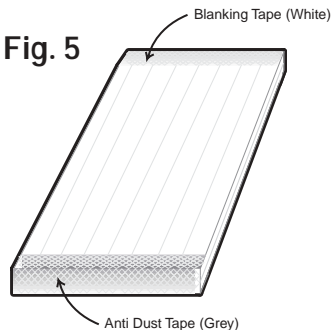

Fig. 5
Step 6: Ensure the sheet is free of any swarf or dirt by blowing air through the flutes and sealing the ridge end of the sheet using blanking tape (Ref. BT 10/16/25). This permanently closes the ridge end of the sheet and stops further ingress of dirt or moisture (Fig. 5). Sealing the sheet can be done at the factory prior to delivery.
Step 7: Seal the eaves end of the sheet with anti-dust tape (ADT 10/16/25), this closes the eaves end helping to prevent dust entry whilst allowing condensation drainage (Fig. 5). Sealing the sheet can be done at the factory prior to delivery.